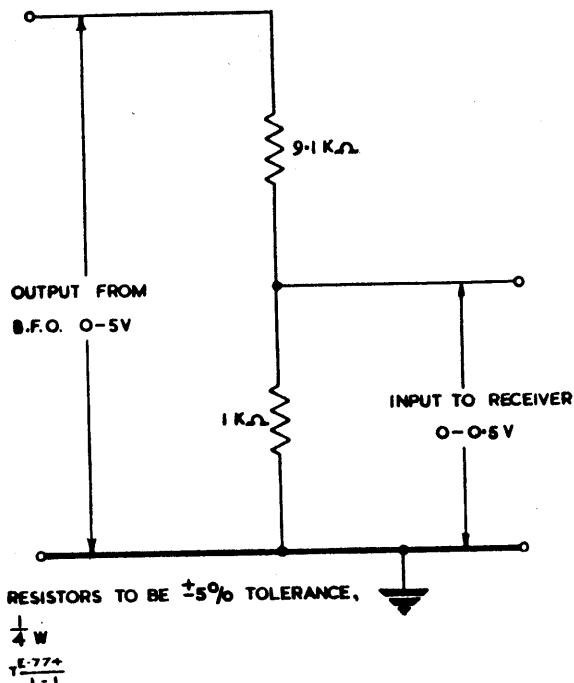

Fig 1 - B.F.O. attenuator circuit
15. The output meter of Oscillators, beat frequency No. 5, 7 or 8 on the 10Ω range is scaled up to 5V. To permit voltages of the order of 0 - 0.5V to be measured, a simple attenuator is used between the output of the B.F.O. and the circuits under test. Suitable values for an attenuator giving an attenuation of 10 : 1 are given in Fig 1. The reading on the B.F.O. meter is then divided by 10.